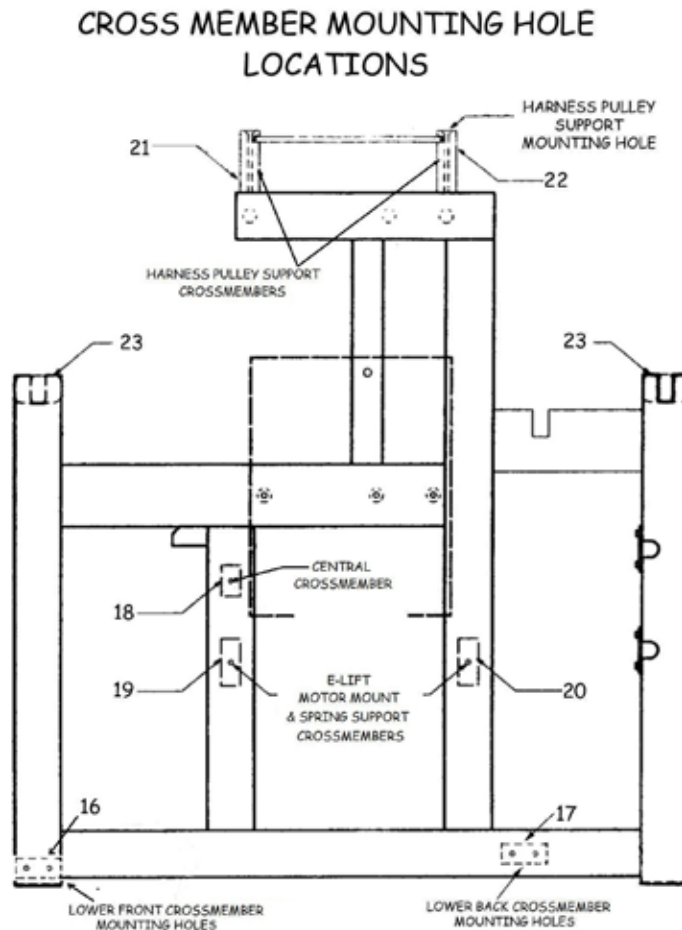

Fig. 3-7
INSTALL THE LOWER REAR CROSS MEMBER (#17) (see Figure 3-7)
In the next stage of your loom assembly, you'll attach the various members that connect the Left and Right Side Frames. Please refer to Figure 3-7 for parts identification and placement.
- 6) Locate the mounting holes for the Lower Back (as shown in Figure 3-7), between Parts #1 and #11.
INSTALL THE E-LIFT SUPPORTS (#19, #20) AND SPRING ANCHOR (see Figure 3-7)